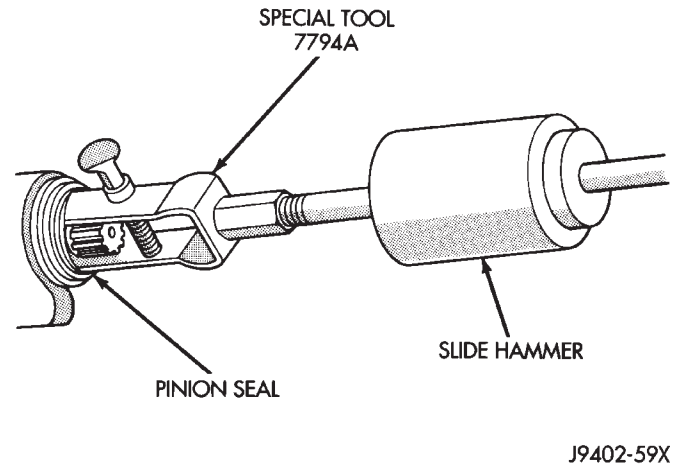

Fig. 47 Seal Removal
- (7) Use Remover 7794-A and slide hammer to remove the pinion shaft seal (Fig. 47).
- (8) Remove oil slinger, if equipped, and front pinion bearing.